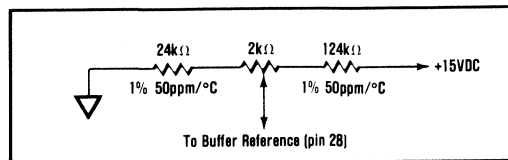

FIGURE 12. Circuit for Deriving Reference Voltage.
3. The reference may be derived from the +15V supply (if it is well regulated) using the circuit in Figure 12.